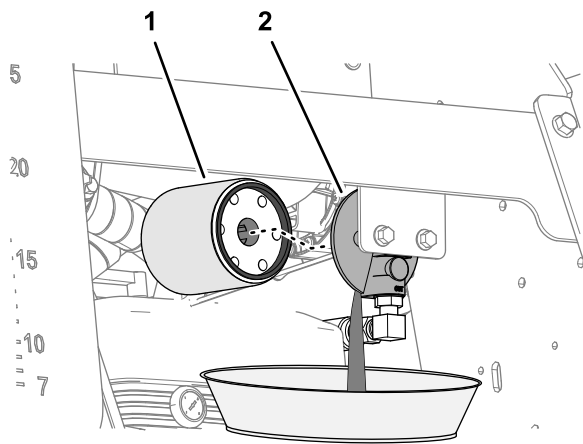

Figure 101
4. Align a drain pan with a 3 L (3 US qt) or greater, under the filter (Figure 101).
5. Remove the filter, and allow the hydraulic fluid to drain (Figure 101).